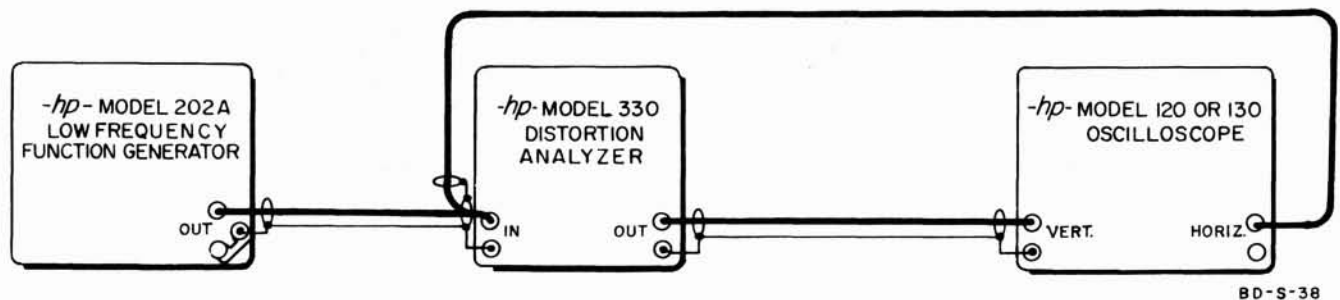

Figure 4-1. Minimum Distortion and Frequency Adjustment Instrumentation
9) Disconnect the voltmeter and connect equipment as shown in Figure 4-1.